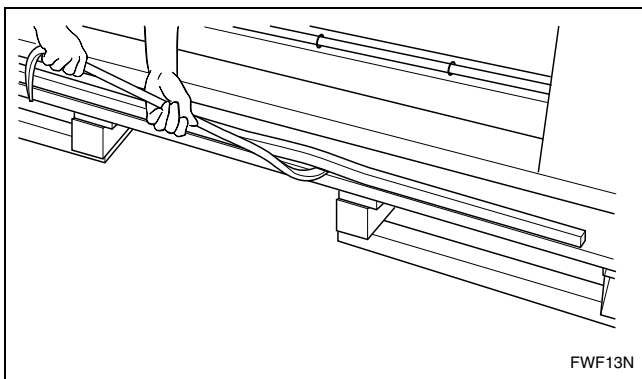

Figure 4
2. Use a pry bar to remove the wood stop from the skid. Refer to *Figure 4*.